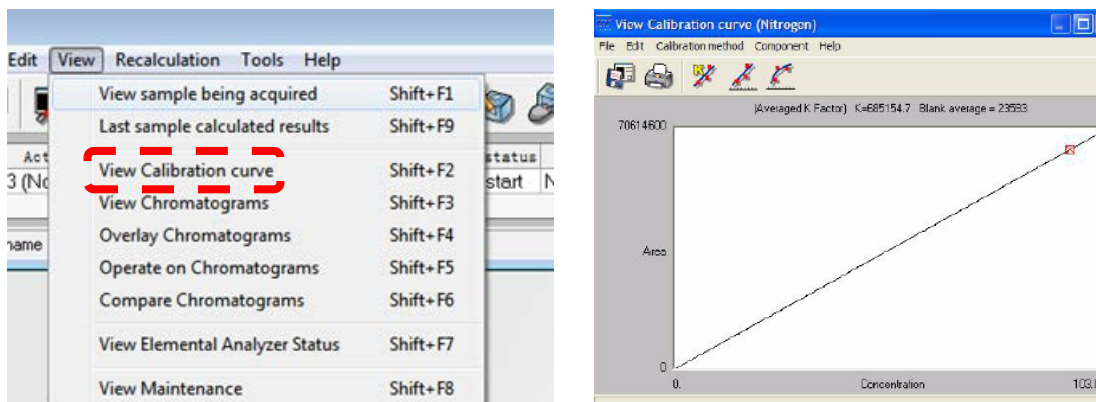

Fig.16 View calibration curve
- 3.3.4 Click **View> View calibration curve** to check the calibration (fig.16).